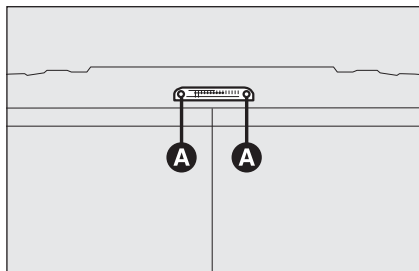

fig. 31
- ☐ loosen the two fastening screws **A**-fig. 31;